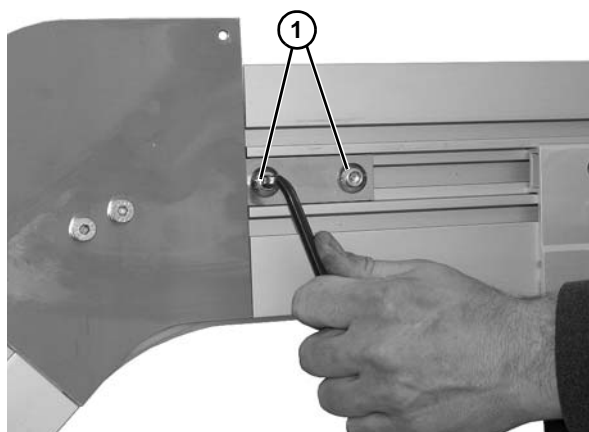

Figure 7
2. Tighten two socket head screws (**Figure 7, item 1**). Repeat on other side.